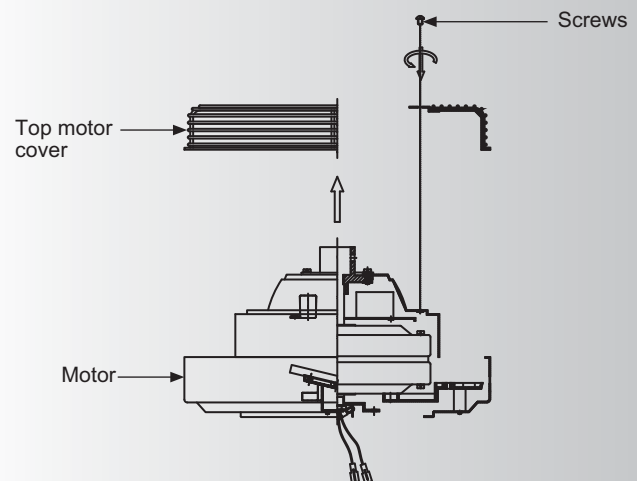

Fig. 7
Step 4. Reinstall the top motor cover to the motor using the six screws previously removed. (Fig. 7)